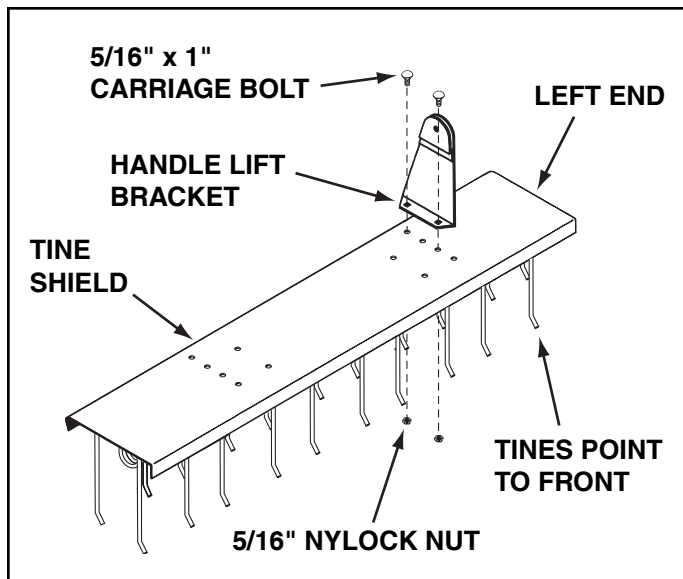

FIGURE 1
1. Assemble handle lift bracket to **rear** set of holes on left end of tine shield. Use two 5/16" x 1" carriage bolts and 5/16" nylock hex nuts. **Tighten**. See figure 1.